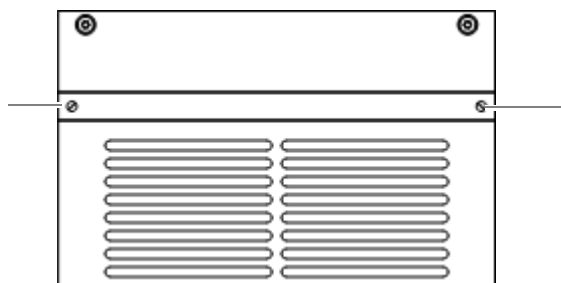

Figure 11.8 Fan insert mounting screws
1. Loosen the mounting screws of the fan insert using a Torx screwdriver size TX20 x 80, refer to Figure 11.8.